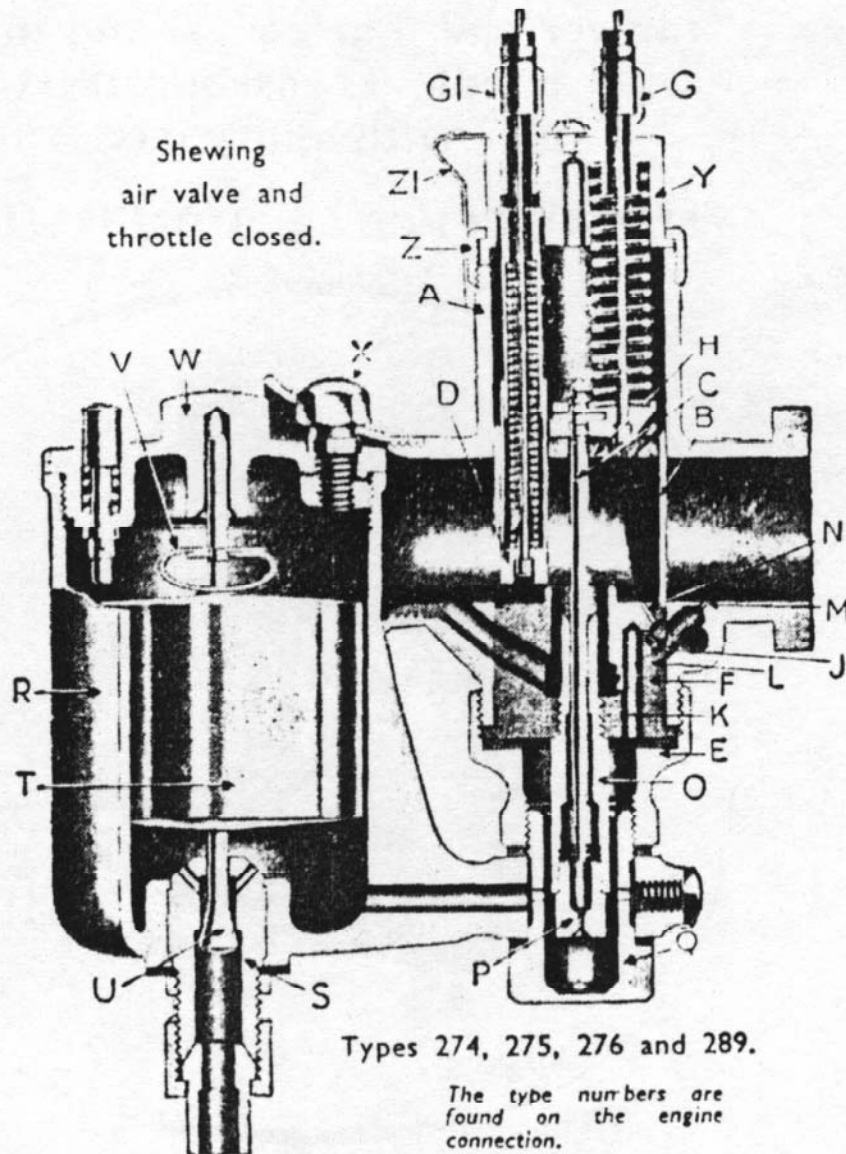

Fig. 2.
Fig. 2 above is the sectioned view of the Standard Amal Carburettor as shown on page 1, figure 1.
**BAD PETROL CONSUMPTION** of a new machine may be due to flooding, caused by impurities from the petrol tank lodging on the float needle seat and so prevent its valve from closing. If the machine has had several years use, flooding may be caused by a worn float needle valve. Also bad petrol consumption will be apparent if the throttle needle jet "O" (see fig. 2) has worn; it may be remedied or improved by lowering the needle in the throttle, but if it cannot be—then the only remedy is to get a new needle jet.
**RE-ASSEMBLING after dismantling.** Note particularly that the mixing chamber nut E (fig. 2, page 2) is tightened up tight on to the washer that holds the jet block F (fig. 2, page 2) otherwise petrol will leak up. When replacing the throttle see that the throttle needle goes into the centre hole in the choke block and once note the throttle works freely when the mixing chamber top ring Z is screwed down firmly and held by spring Z1.
**Float chamber lid.** To remove, first loosen screw X (fig. 2). To remove float, pinch the bow V (fig. 2), and pull; when replacing, slip over needle and slide down till bow jumps into the needle groove. Care required to avoid bending needle.